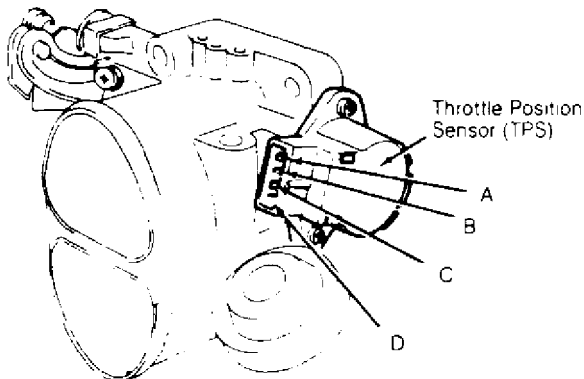

Fig. 14: Identifying TP Sensor Terminals (MPV 3.0L)
Disconnect TP sensor connector. Using an ohmmeter, measure resistance between specified terminals of TP sensor connector. See TP SENSOR RESISTANCE (MPV 3.0L & 929) table. See Fig. 14 or 15. If resistance is not as specified, adjust TP sensor. See ADJUSTMENT procedure.
1) Insert a feeler gauge of specified thickness between throttle lever and throttle stop screw. See TP SENSOR ADJUSTMENT (MPV 3.0L & 929) table. Check continuity between TP sensor connector terminals "C" and "D". See Fig. 14 or 15.